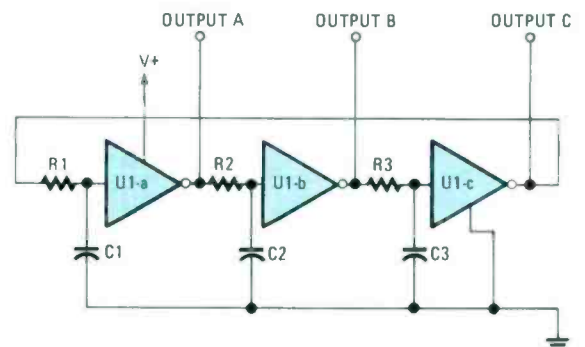

Fig. 1—This three step clock can be built around nearly any CMOS inverter, but high-speed types are not recommended because of their tendency to produce RFI.
The best location for kite flying is either on the windward side of a hill, or on a plain where there are no ground irregularities at all. The wind tends to rise upward along the windward side of a hill, but turbulence occurs at the crest and especially on the leeward side of the crest (Fig. 1). I live just past the crest of a hill on the northern side and have continuing problems with winds from the south, southeast, and southwest. Winds from the north and northwest are much more stable even though kite flying in such winds makes it necessary to hang the kites over the neighborhood where they attract attention. There is no question; using kites as antenna supports puts your hamming or SWLing in the hands of Nature to a large extent.
Fig. 1—This is an illustration of wind circulation over a hill. The best points for kite launching are on the windward side (X). The crest of the hill (Y), and especially the leeward side (Z) are subject to turbulence, although a high-flying kite can sometimes be used to get above the turbulence if launched from those points.
Figure 1 shows a functional diagram of the main part of the Mini-Marque circuit. Three gates of a CMOS hex inverter/buffer form an astable multivibrator (or oscillator) with a three-step output. When the power is first turned on, the outputs are initially floating high. The application of power causes C1, C2, or C3 to charge because of circuit instability. Let's assume C1 has charged, the output of that inverter, U1-a, goes low. The low output of the first inverter is fed to the second inverter (U1-b), causing its output to go high.
Refer to Fig. 2—the complete schematic diagram of the Mini-Marque. Note that the oscillator of Fig. 1 is now com-
Any signal—analogue or digital—that is not a sinewave is said to be nonsinusoidal. The most common nonsinusoidal signal is a rectangular wave. Several examples are given in Fig. 1. Obviously, their name is derived from their shape. Those waveforms switch between two different voltage levels. The vertical part of the wave represents an "instantaneous" transition from one level to the other. In A the waveform switches from zero to +10 volts and back. The 0 to +10 transition is called the leading edge while the +10 to 0 transition is known as the trailing edge. Note that the wave has two parts, "on" when +10 volts is present and "off" when the wave is zero. The "on" parts of the waveform are usually referred to as pulses.
We compute the pulse amplitudes of the waveforms in Fig. 1 as follows:
Fig. 1—In A, the waveform switches from zero to +10 volts and back, so the amplitude is 10 volts. In B, the pulses are accompanied by a DC component. A waveform of equal amplitude, but without the DC component, would have a lower average value. In C, the rectangular wave has a zero average value since it's symmetrical. The waveform in D is DC, but it switches between two negative voltage levels, -0.8 and -5.2 volts, giving it a negative average value.